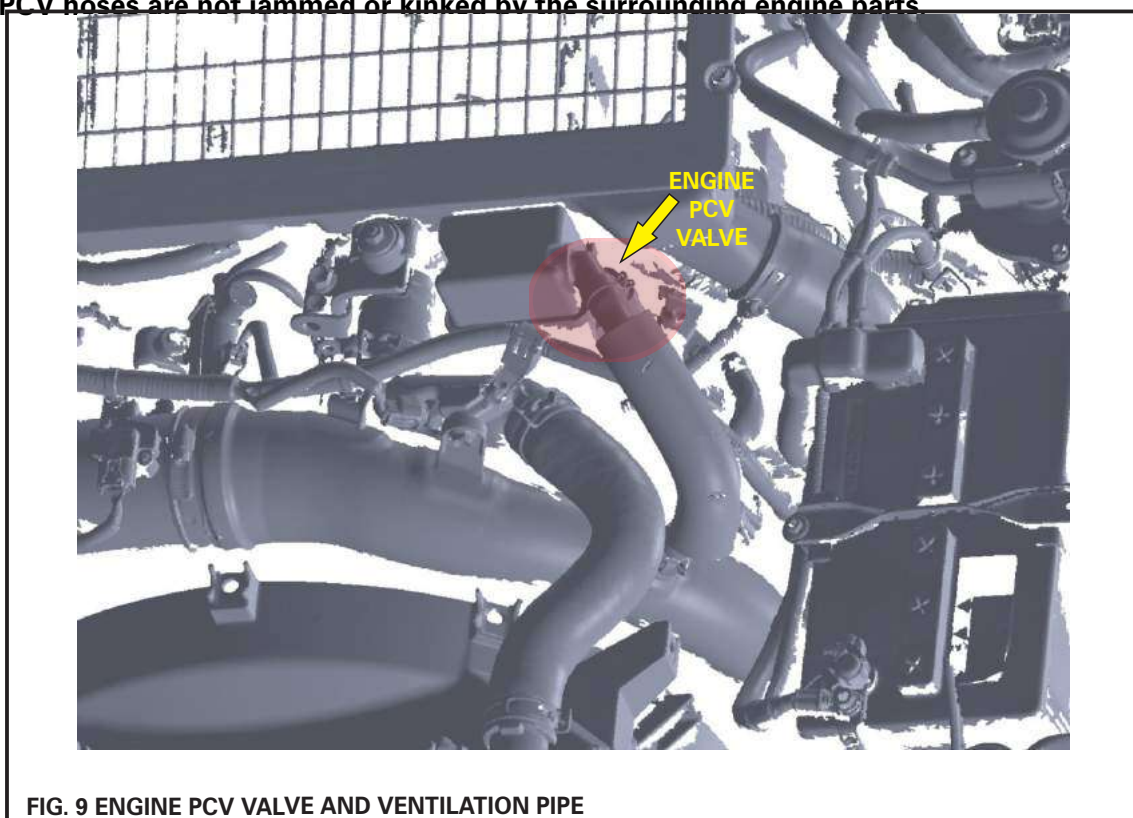
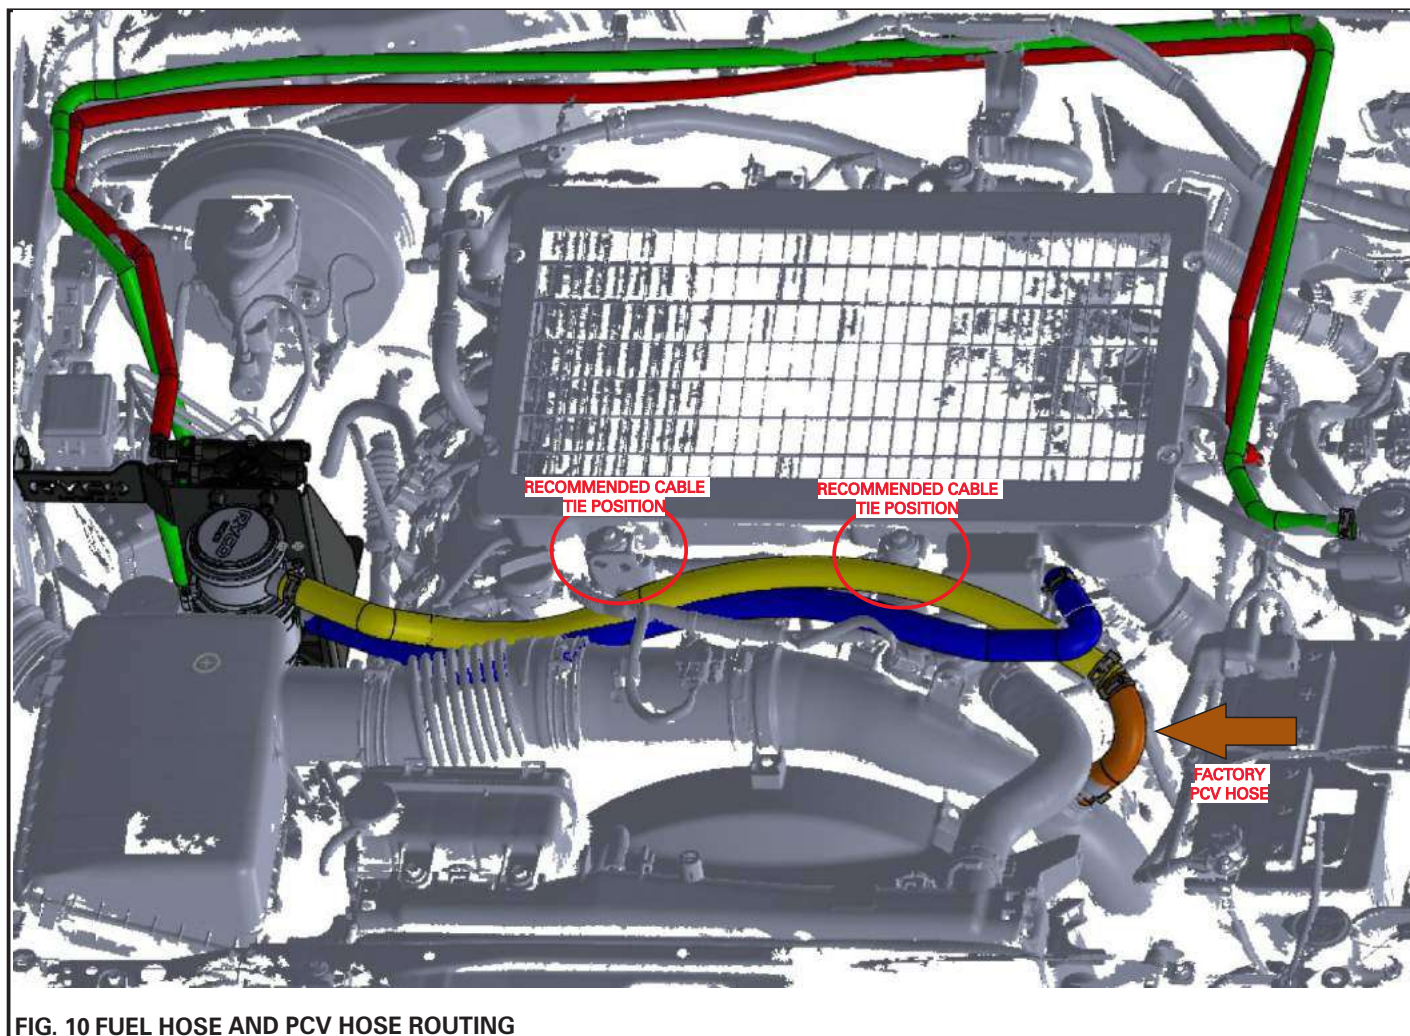

FIG. 9 ENGINE PCV VALVE AND VENTILATION PIPE
FIG. 10 FUEL HOSE AND PCV HOSE ROUTING
2. Locate the factory PCV valve at the front of the engine, as per Fig. 9. Disconnect the factory PCV hose from the PCV valve but leave it attached to the air intake. Connect the small end of Ryco PCV hose MH9811A to the engine PCV valve outlet using a hose clamp. Route the Ryco PCV hose across the front of the engine, behind the factory air intake system as shown in Fig. 10 and connect to the lower port of the RCC351. Secure with a supplied hose clamp.
3. Connect a supplied straight hose joiner to the small diameter end of the Ryco PCV hose MH9811B and secure with a supplied hose clamp. Connect MH9811B to the factory PCV hose via the hose joiner and secure with a supplied hose clamp. Route MH9811B along side MH9811A as per Fig.10 and connect the large diameter end to the upper port of the RCC351 and secure with a supplied hose clamp.
4. Locate the two (2) intercooler mounting brackets as per Fig.10. Secure the two (2) PCV hoses with the supplied cable ties onto the brackets. (Note: Do not tighten the cable ties excessively as the hoses should be allowed to slide)